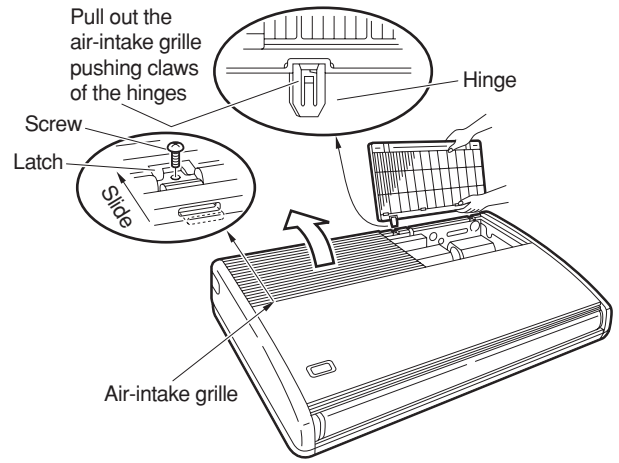
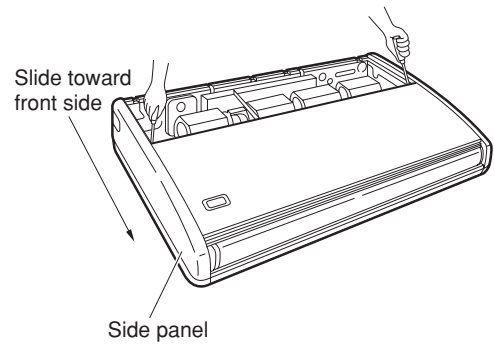

Fig. 3-72a
Fig. 3-72b
- (5) Before suspending the indoor unit, remove the 2 or 3 screws on the latch of the air-intake grilles, open the grilles, and remove them by pushing the claws of the hinges as shown in Fig. 3-72a. Then remove both side panels sliding them along the unit toward the front after removing the 2 attachment screws. (Fig. 3-72b)